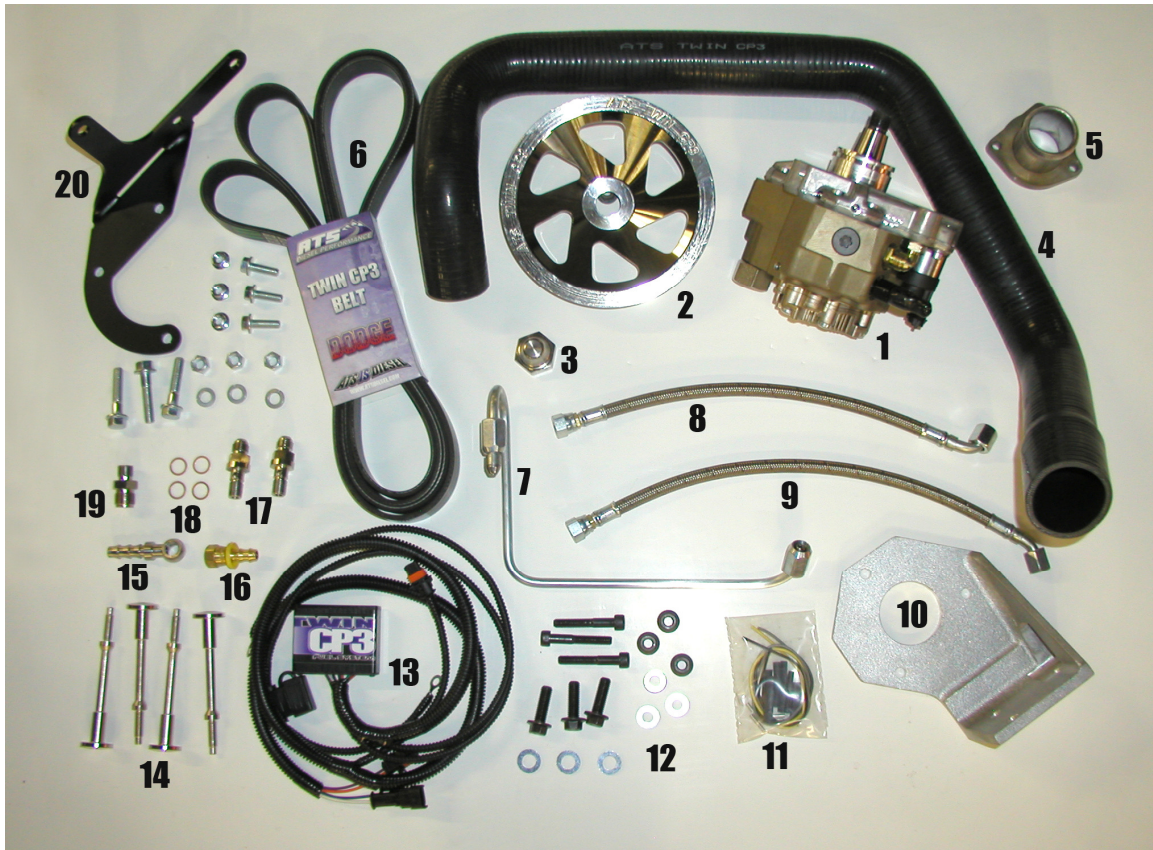
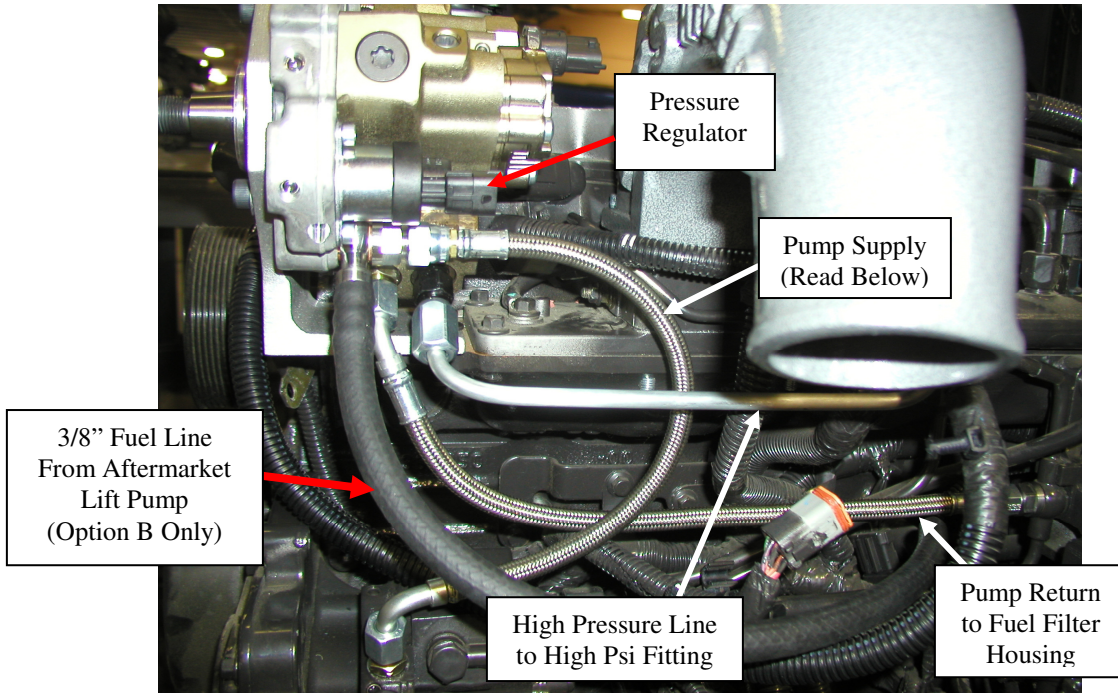
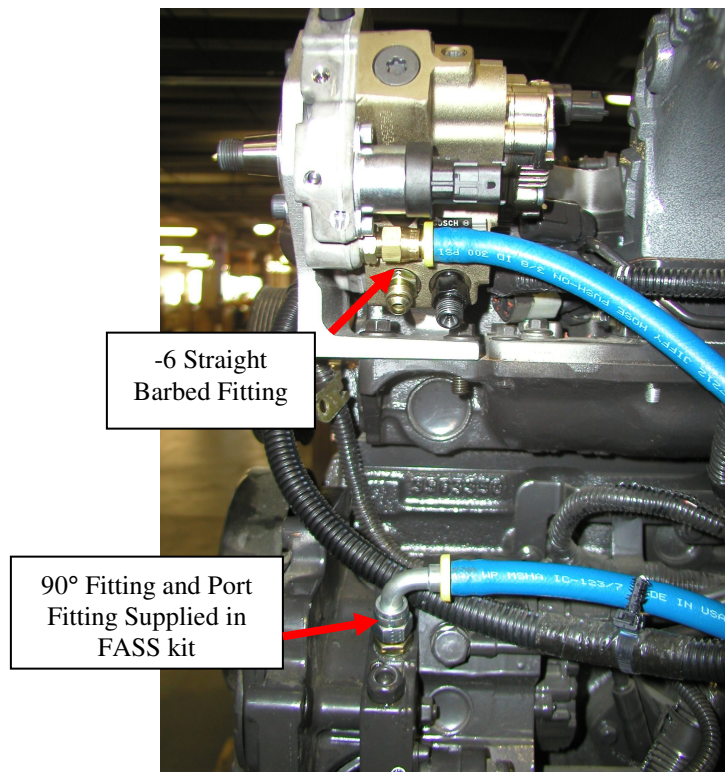

Figure 1: Dodge Twin CP3 Kit Contents
Figure 8: Fuel Lines Installed (Option "B" below)
Figure 13: Twin Lift Pumps Supplying Twin CP3 Pumps
1. Before beginning installation, please check to make sure all of the parts pictured above are inside the Dodge Twin CP3 kit. A complete corresponding list of components can be found on pages 13 and 14. The high-pressure fuel line (#7 Figure 1) will be different than pictured. The
2003-2004.5 Vehicles: The TPS sensor and bracket will have to be removed to make room for the new CP3 pump. The sensor will have to be relocated using the bracket and hardware supplied (#21, Figure 1).
11. If installing the Twin CP3 kit on a 2006 or later vehicle, the valve cover bolts will have to be replaced with the four button head bolts provided in the kit, (#14 Figure 1). The factory valve cover bolts will wear a hole in the ATS radiator hose.
16. Install the ATS high pressure fitting (#19, Figure 1) into the open port in the fuel rail. Note: apply a small amount of grease (polylube or transjel) to the sealing surface on the bottom of the high pressure fitting prior to installation.
17. Install the high-pressure steel fuel line (#7, Figure 1) from black fitting on the pump to the new fitting that replaced the pressure switch in the rail.
19. Install the 14" steel braided -6 line from the pump return to the new banjo fitting, Figure 8.
A6. Connect the 11.5 inch –6 steel-braided line from the ATS 12mm banjo / JIC-6 fitting to the supply port located next to the pressure regulator on the second pump as shown in Figure 8.
B4. Install the 11.5" supply line (#8 Figure 1) from the M12 to -6 fitting to the supply on the factory pump as shown in Figure 8.
C1. If two FASS or equivalent aftermarket lift pumps will be supplying the CP3 pumps, then connect the supply lines from the lift pump directly to each CP3 supply port using the hardware supplied with the lift pump kits as shown in Figure 13. The ATS Dodge Twin CP3 kit includes one -6 female barbed fitting (#16 Figure 1) for option C.